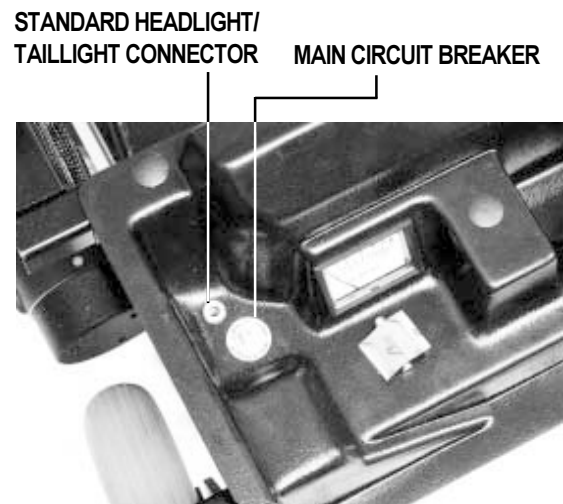

Figure 4. Main Circuit Breaker
- **Main Circuit Breaker:** The main circuit breaker is a safety feature built into your Jazzy 1104. See figure 4. When the batteries and the motors are heavily strained (e.g., from excessive loads), the main circuit breaker trips to prevent damage to the motors and the electronics. If the circuit trips, allow your Jazzy to "rest" for approximately one minute. Next, push down the circuit breaker button, turn on the joystick controller and continue normal operation. If the main circuit breaker continues to trip repeatedly, contact your authorized Pride provider.